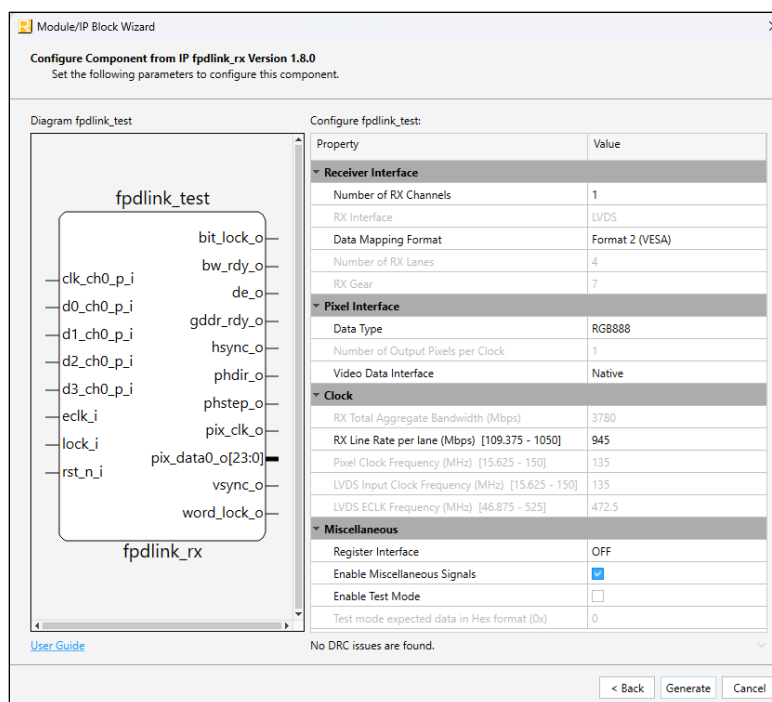

Figure 6.2. IP Configuration
5. Customize the selected FPD-Link Transmitter IP using drop-down lists and check boxes. Figure 6.2 shows an example configuration of the FPD-Link Transmitter IP. For details on the configuration options, refer to the IP Parameter Description section.